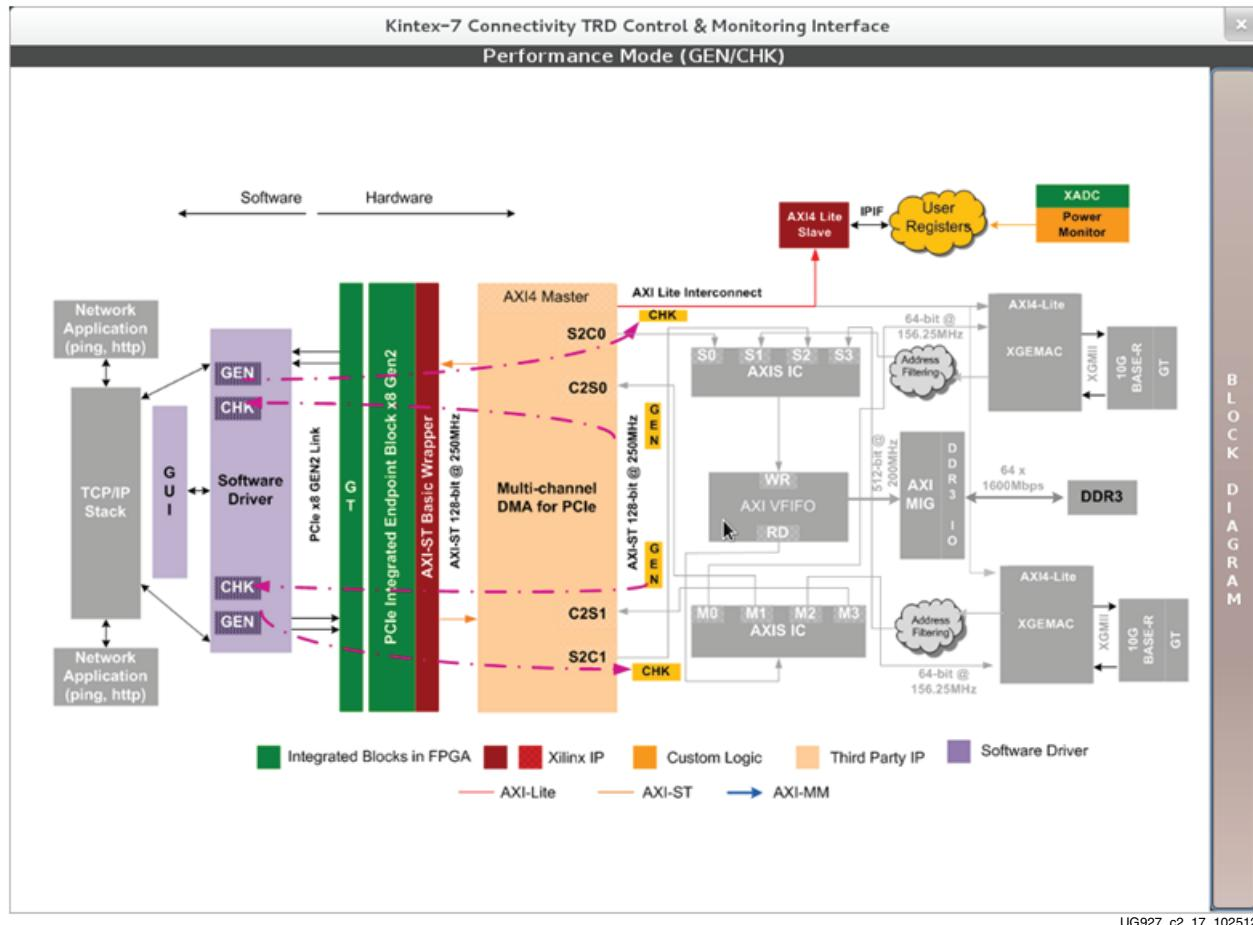

Figure 2-17: Design Block Diagram
16. The user can click on the Block Diagram option to view the design block diagram as shown in Figure 2-17.